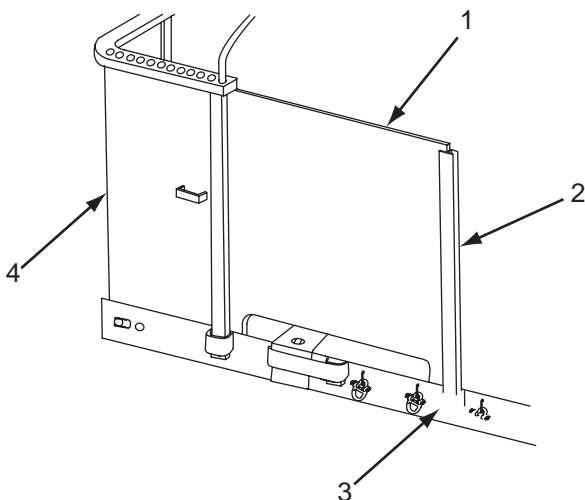

Figure 7. Side Rack Rail
- Side racks should be installed with the notched side down, as shown in Figures 7 and 8, when cargo tie downs are used. Side racks should be installed with the notched side up during all other operations.
1. Install first side rack panel (1) into slot in bulkhead (4).
2. Install slot of stake (2) on side rack panel (1) and slide stake into slot (3).
3. Install remaining side racks (5).